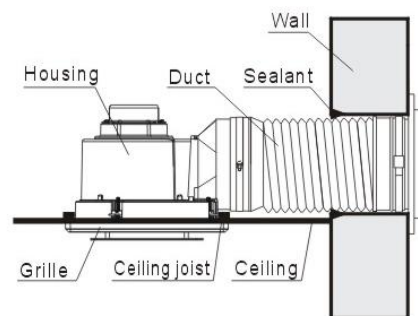

Fig. 2 – Installing duct if required
8. Note: if ducting is required to completely exhaust air from the room, then install a 150mm or 100mm duct pipe to the exhaust fan and lay the ducting across the ceiling and onto a suitable 150mm or 100mm exhaust vent. (Fig 2)